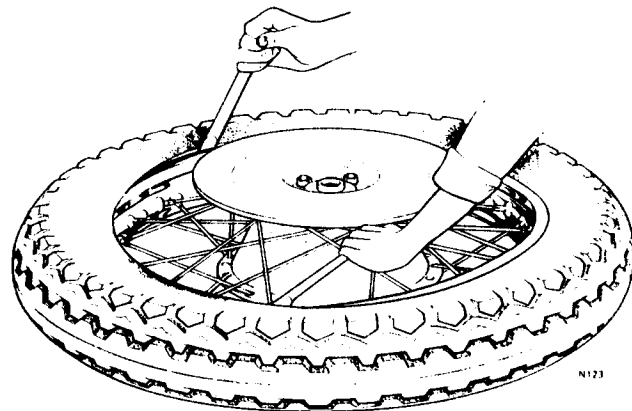

Fig. H11 Two tire levers in use to remove first bead of tire
- 8 Remove the first lever and re-insert at the next stage, continuing round the rim a little at a time (see *Fig. H11*) until the beading can be pulled clear of the rim.
- 9 Remove the first lever and re-insert at the next stage, continuing round the rim a little at a time (see Fig. H11) until the bead can be pulled clear of the rim.